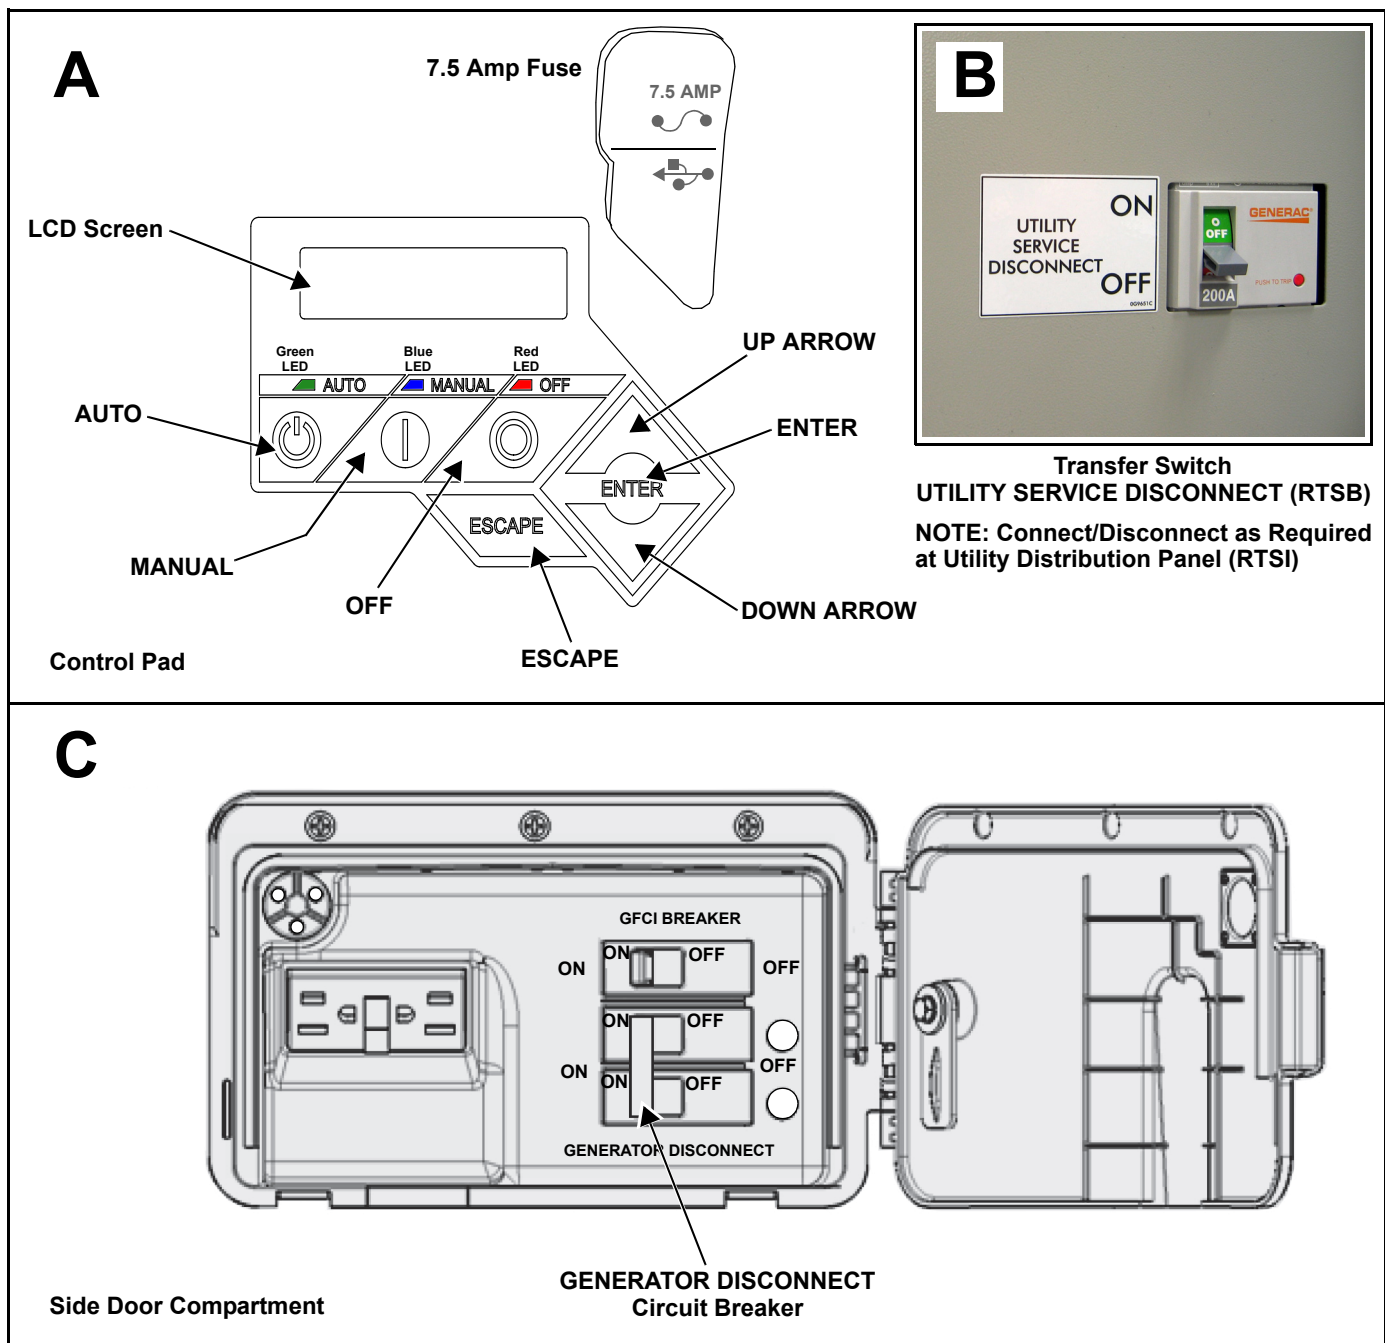

Figure 6-2. Generator Controls and Switches
1. Press OFF on the generator control pad. A red LED illuminates to confirm that the system is in the OFF mode. See A of Figure 6-2.
2. Move the transfer switch UTILITY SERVICE DISCONNECT circuit breaker switch down to the OFF (Open) position (RTSB), or disconnect as required at Utility Distribution Panel (RTSI). See B of Figure 6-2.
3. Move the GENERATOR DISCONNECT Circuit Breaker switch to the OFF (Open) position. See C of Figure 6-2.